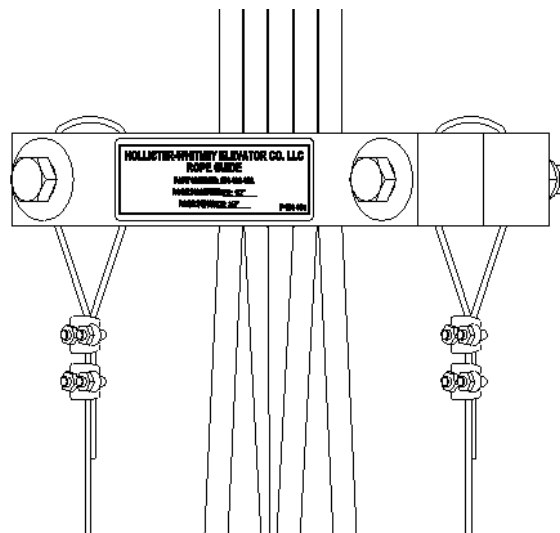

Figure 2: Rope Guide Restraint Cable Installation
- Lace provided 1/8" cable through Rope Guide and install two (2) crosby clamps on each side as shown below in **Figure 2**.
- Similarly lace opposite end of the 1/8" cable through shackles or similar, snug cable, and install two (2) crosby clamps on each side.